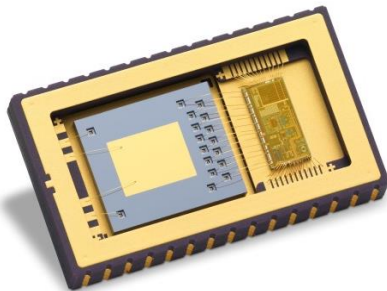

Figure 29 : Inner view of the package, showing the MEMS and IC
The sensing element (MEMS die), which is located on the left part of the Figure 29, is manufactured using Tronics' wafer-level packaging technology based on micro-machined thick single crystal silicon. The MEMS consists of two coupled sub-structures subjected to linear anti-phase vibrations. The structures are vacuumed at the wafer-level providing high Q-factor in the drive mode. The drive system is decoupled from the sense system in order to reduce feedback from sense motion to drive electrodes. The drive anti phase vibration is sustained by electrostatic comb drives. The sense anti phase vibration resulting from Coriolis forces is counter balanced by electrostatic forces. Differential detection and actuation are used for both drive and sense systems and for each sub-structure, keeping two identical structures for efficient common mode rejection.
The integrated circuit (IC), which is located on the right part of the Figure 29, is designed to interface the MEMS sensing element. It includes ultra-low noise capacitive to voltage converters (C2V) followed by high resolution voltage digitization (ADC) for both drive and sense paths. Excitation voltage required for capacitance sensing circuits is generated on the common electrode node. 1-bit force feedbacks (DAC) are used for both drive and sense system actuation.